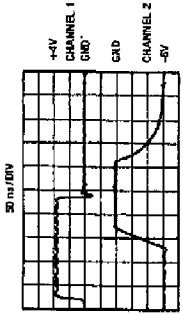

Figure 6-42. Pulse Driver Board, Input Pulse and Sample Pulse
45. Connect Channel 1 of the oscilloscope to A5A4T23 and Channel 2 to A5A4T24. Adjust the oscilloscope as shown in Figure 6-42 just to compare the oscilloscope display to the figure.